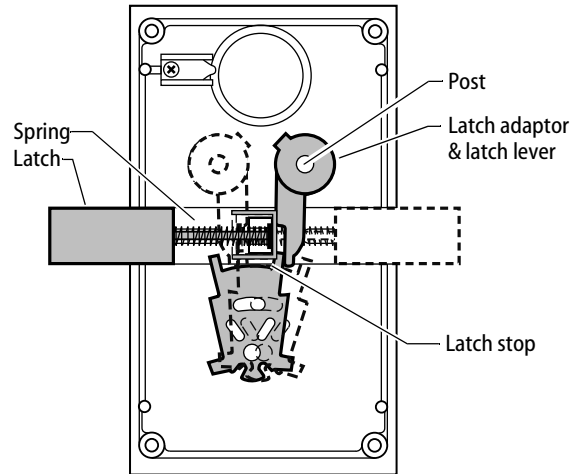

Figure 3
- 1 Compress the spring on the latch and pull the latch out of the cradle. See Figure 3.
- 2 Pull the latch adaptor and latch lever off of the post. See Figure 3.
- 8 Make sure that the washer fits into the recess of the cradle when the spring is released. See Figure 3.
- 9 Make sure that the latch stop fits over the edge of the latch lever. See Figure 3.